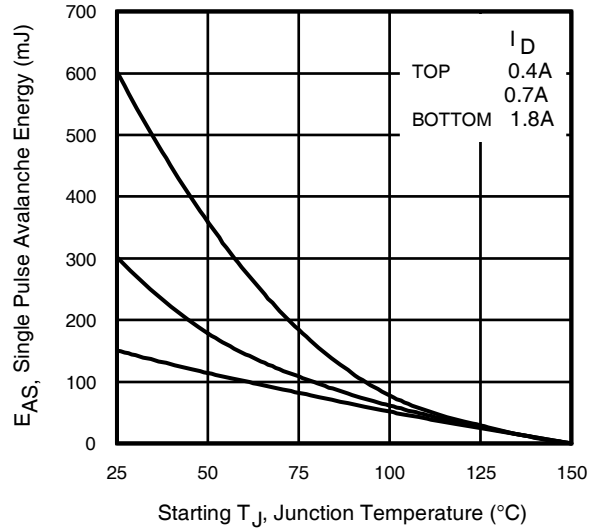

Fig 13. Maximum Avalanche Energy vs. Drain Current
- ② Starting $T_J = 25^\circ\text{C}$, $L = 93\text{mH}$, $R_G = 25\Omega$, $I_{AS} = 1.8A$. (See Figure 13).
- ③ $I_{SD} = 3.6A$, $di/dt \leq 520A/\mu\text{s}$, $V_{DD} V_{(BR)DSS}$, $T_J \leq 150^\circ\text{C}$.
④ Pulse width $\leq 300\mu\text{s}$; duty cycle $\leq 2\%$.
⑤ $C_{oss \text{ eff.}}$ is a fixed capacitance that gives the same charging time as C_{oss} while V_{DS} is rising from 0 to 80% V_{DSS} .